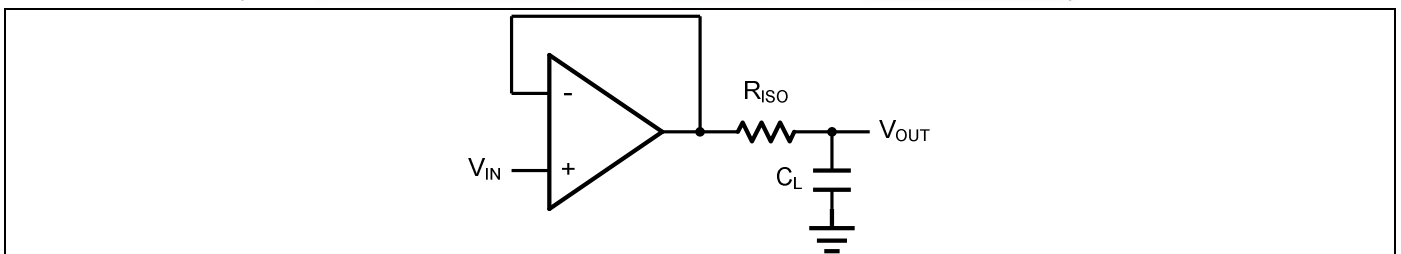
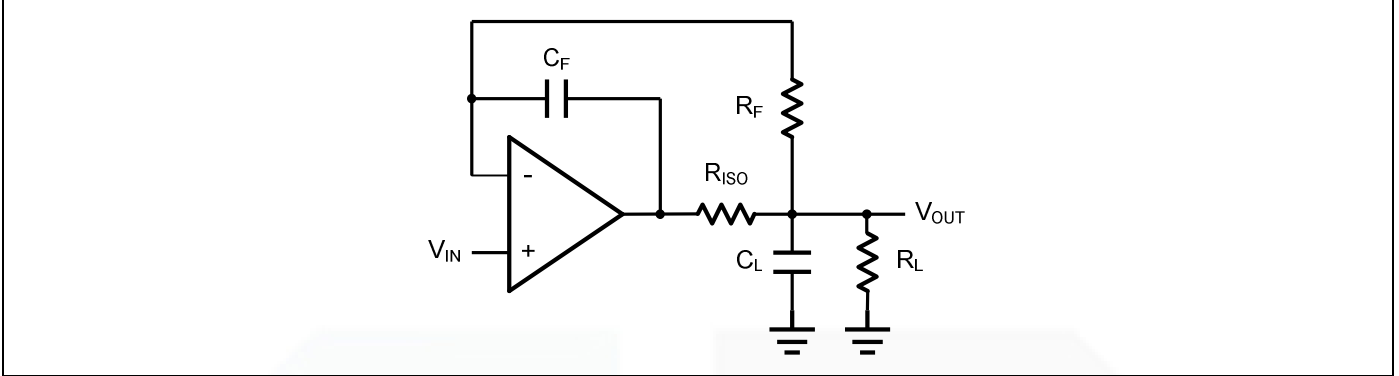

Figure 2. Indirectly Driving a Capacitive Load Using Isolation Resistor
Figure 3. Indirectly Driving a Capacitive Load with DC Accuracy
The GS859x family is optimized for bandwidth and speed, not for driving capacitive loads. Output capacitance will create a pole in the amplifier's feedback path, leading to excessive peaking and potential oscillation. If dealing with load capacitance is a requirement of the application, the two strategies to consider are (1) using a small resistor in series with the amplifier's output and the load capacitance and (2) reducing the bandwidth of the amplifier's feedback loop by increasing the overall noise gain. Figure 2. shows a unity gain follower using the series resistor strategy. The resistor isolates the output from the capacitance and, more importantly, creates a zero in the feedback path that compensates for the pole created by the output capacitance.
The circuit in Figure 3 is an improvement to the one in Figure 2. R_F provides the DC accuracy by feed-forward the V_{IN} to R_L . C_F